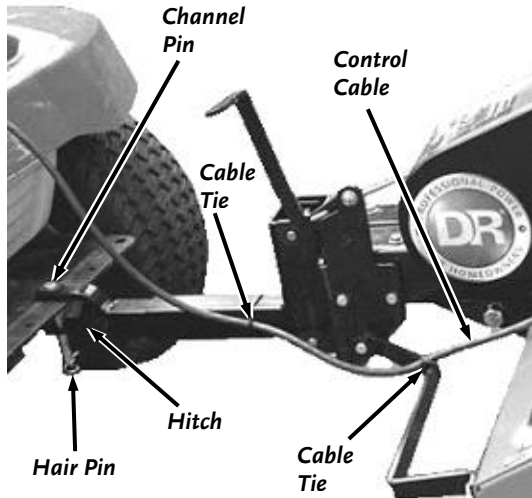

Figure 10
2. Remove the Hair Pin and Channel Pin from the Hitch on the DR TOW-BEHIND ROTOTILLER (**Figure 10**). Position the Hitch onto the Tow Vehicle and reinstall the Channel Pin and Hair Pin.